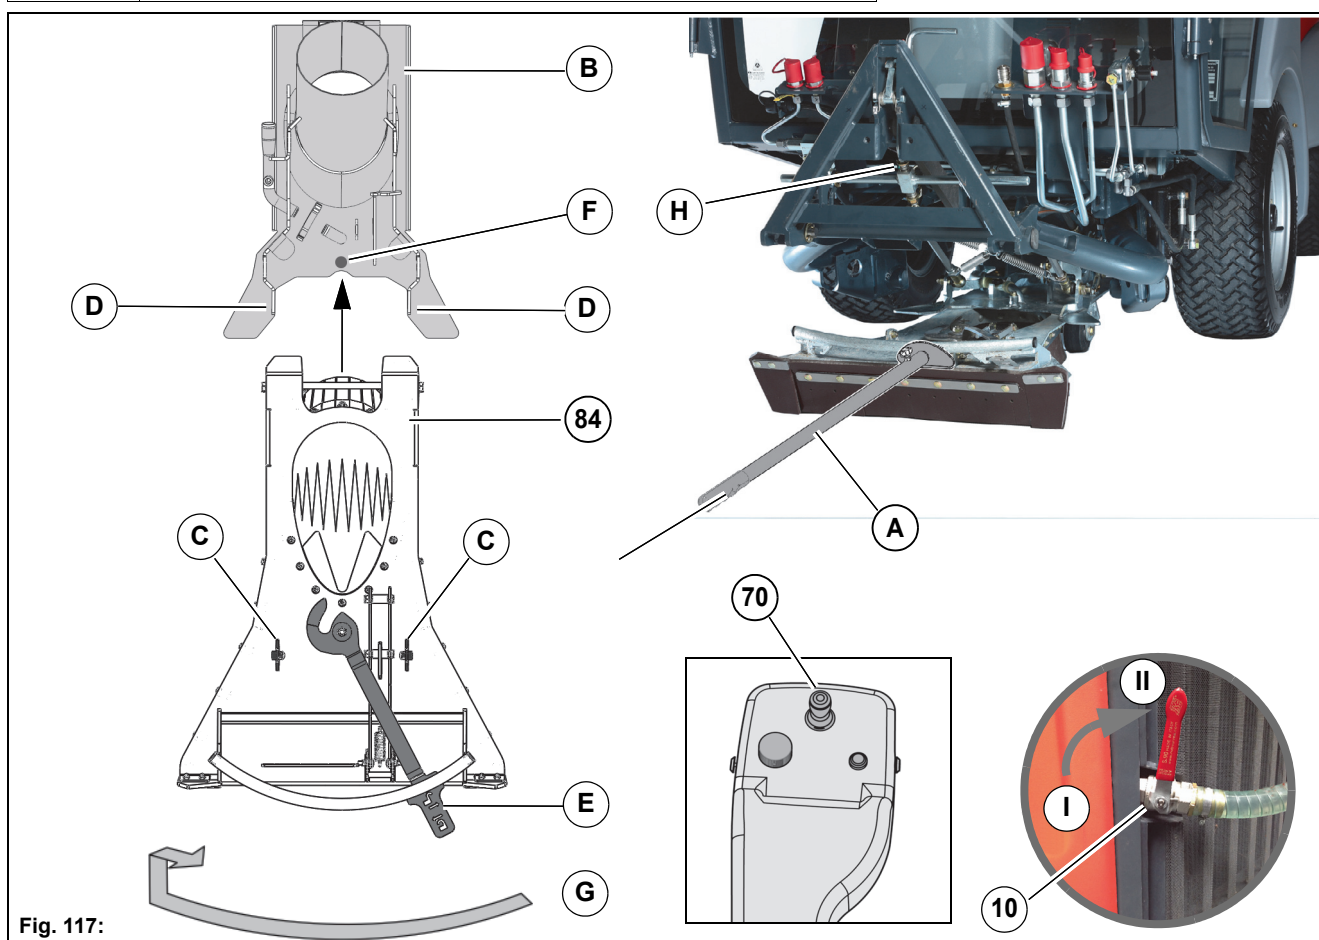

Fig. 117:
2. Position the suction mouth **Fig. 117-84** by hand or with the auxiliary tool **Fig. 117-A** centrally under the holding plate **Fig. 117-B**. If required, fix the front tool carrier with the chain **Fig. 117-H** in the upper position. Release the fixation after mounting!
4. Shift the suction mouth centrally under the holding plate until the stops **Fig. 117-C** come up to the points **Fig. 117-D**.
5. With the lever **Fig. 117-E** lock and secure the suction mouth on the counter bearing **Fig. 117-F** of the holding plate, see sketch **Fig. 117-G**.